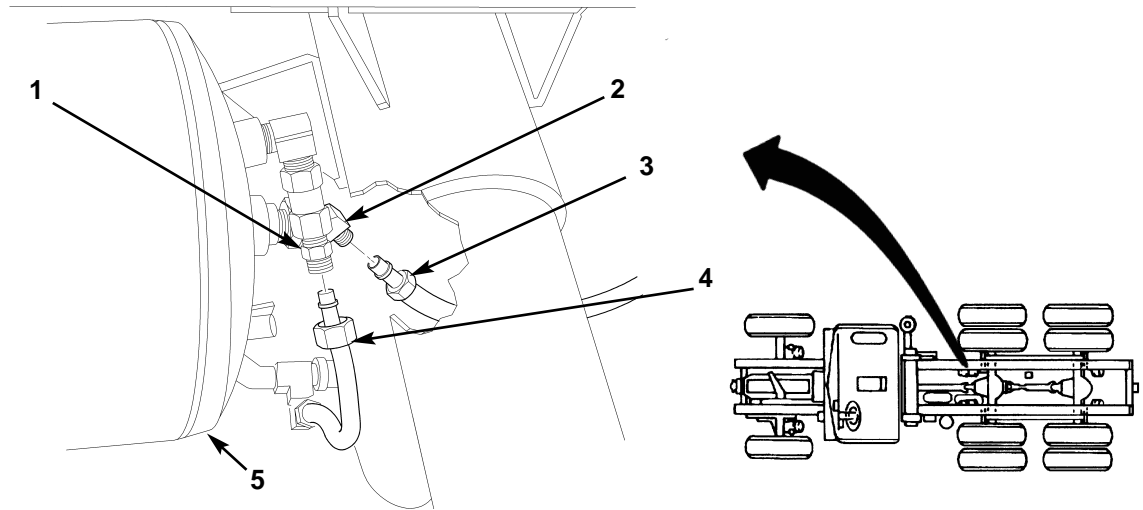

Figure 2. Disconnecting Tubes from Primary Reservoir.
4. Disconnect tubes (figure 2, items 3 and 4) from adapter (figure 2, item 1) and elbow (figure 2, item 2), located at front end of primary reservoir (figure 2, item 5).